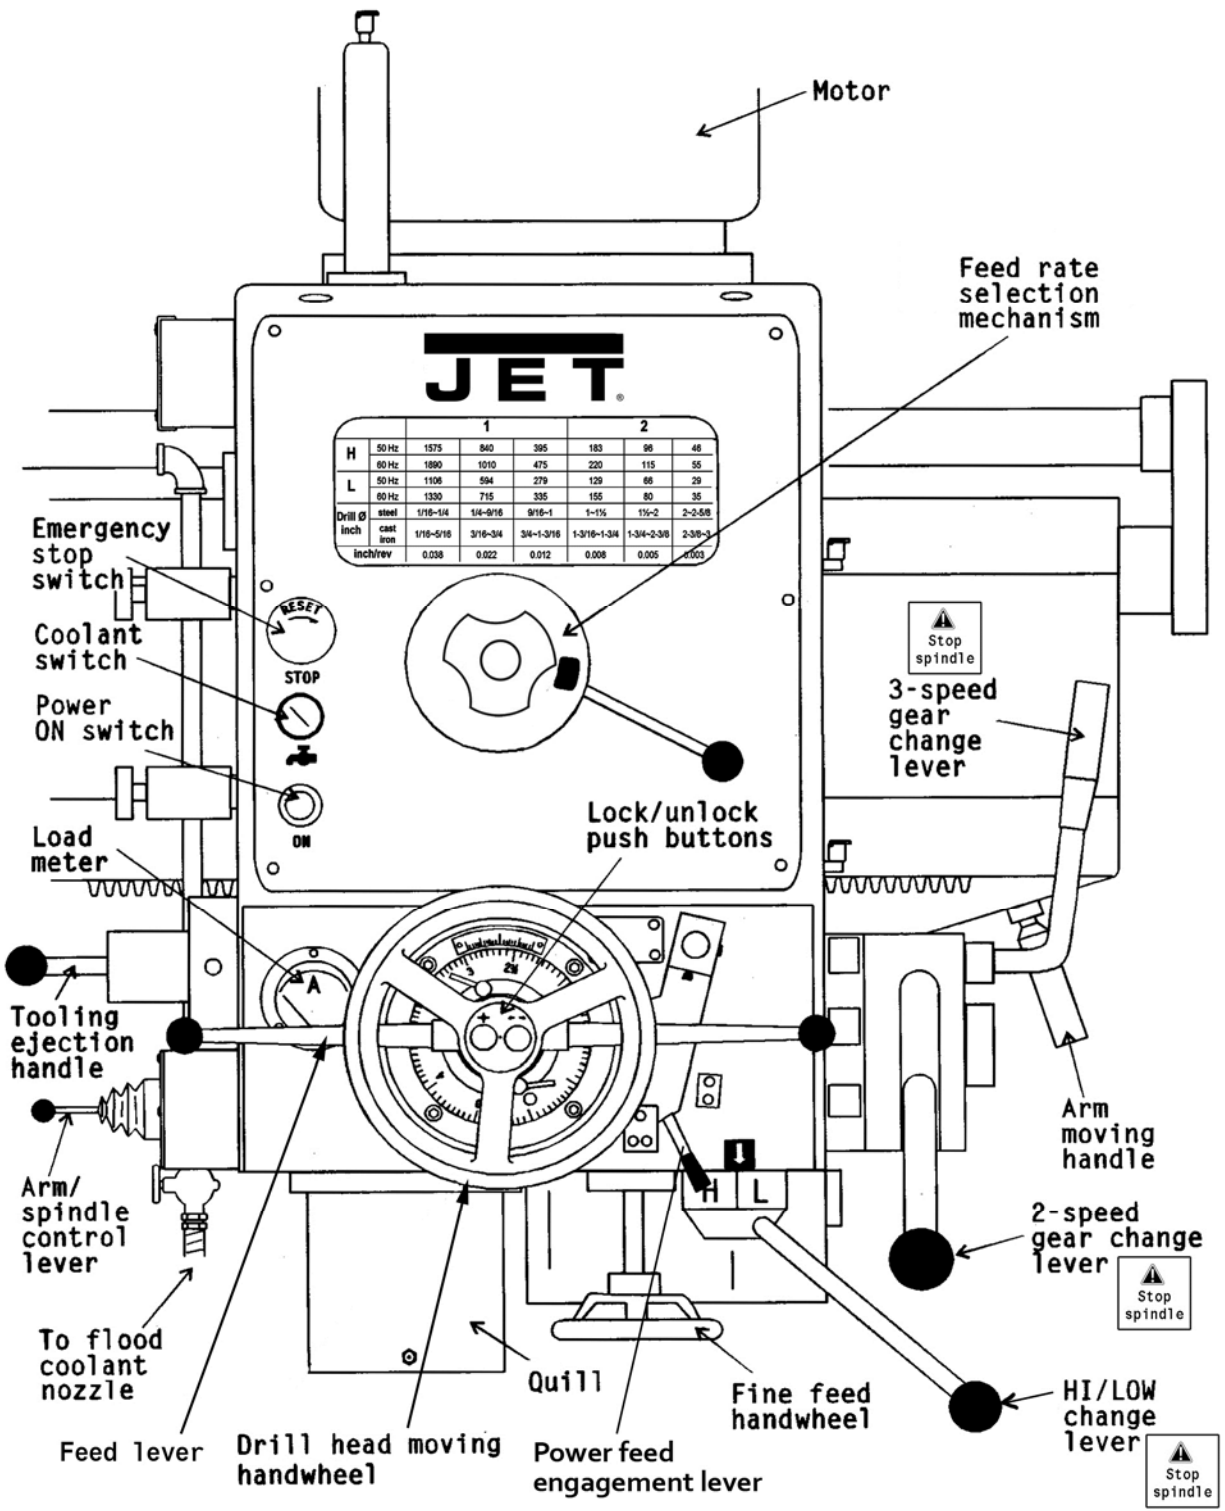
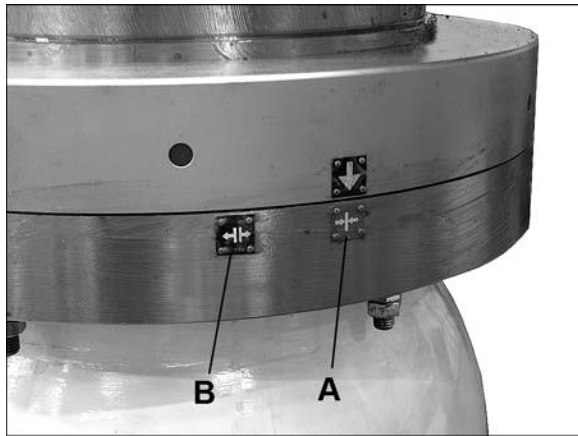

Figure 10: Operating Controls
Figure 11: Locking indicators
\*See Figure 10 for details on drill head controls.
5. Turn coolant switch (See Figure 10) to ON position.
4. Pull the tooling ejection handle *out* to be certain the tooling can be inserted. See Figure 10.
The buttons which control the locks are located in center of drill head handwheel (see Figure 10). Press and hold UNLOCK (green) button until arrow (Figure 11) points to "B". Release button. Clamping device is now disengaged. When locking, press and hold LOCK (red) button until arrow points to "A". Clamping device is now re-engaged.
2. Raise or lower arm to required height using arm/spindle control lever (see Figure 10). See also section 8.24, *Arm/spindle control lever*.
2. Turn handwheel to move drill head along arm. See Figure 10.
2. Swing arm using handle (see Figure 10) to required spindle position.